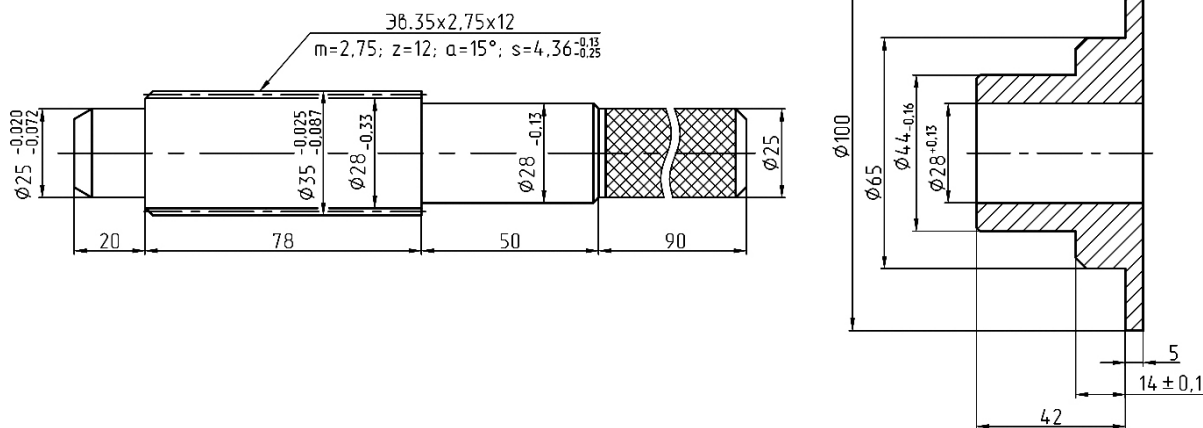

Fig. K-10. Workholder
- mount a splined workholder (fig. K-10) in the bearing of the flywheel.